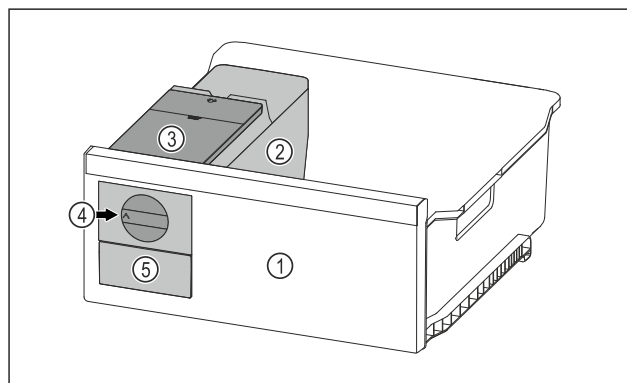

Fig. 151 Example illustration
- Turn the rotary knob Fig. 151 (4) clockwise as far as it will go.
- Ice cubes fall from the ice cube tray into the ice cube drawer Fig. 151 (5).